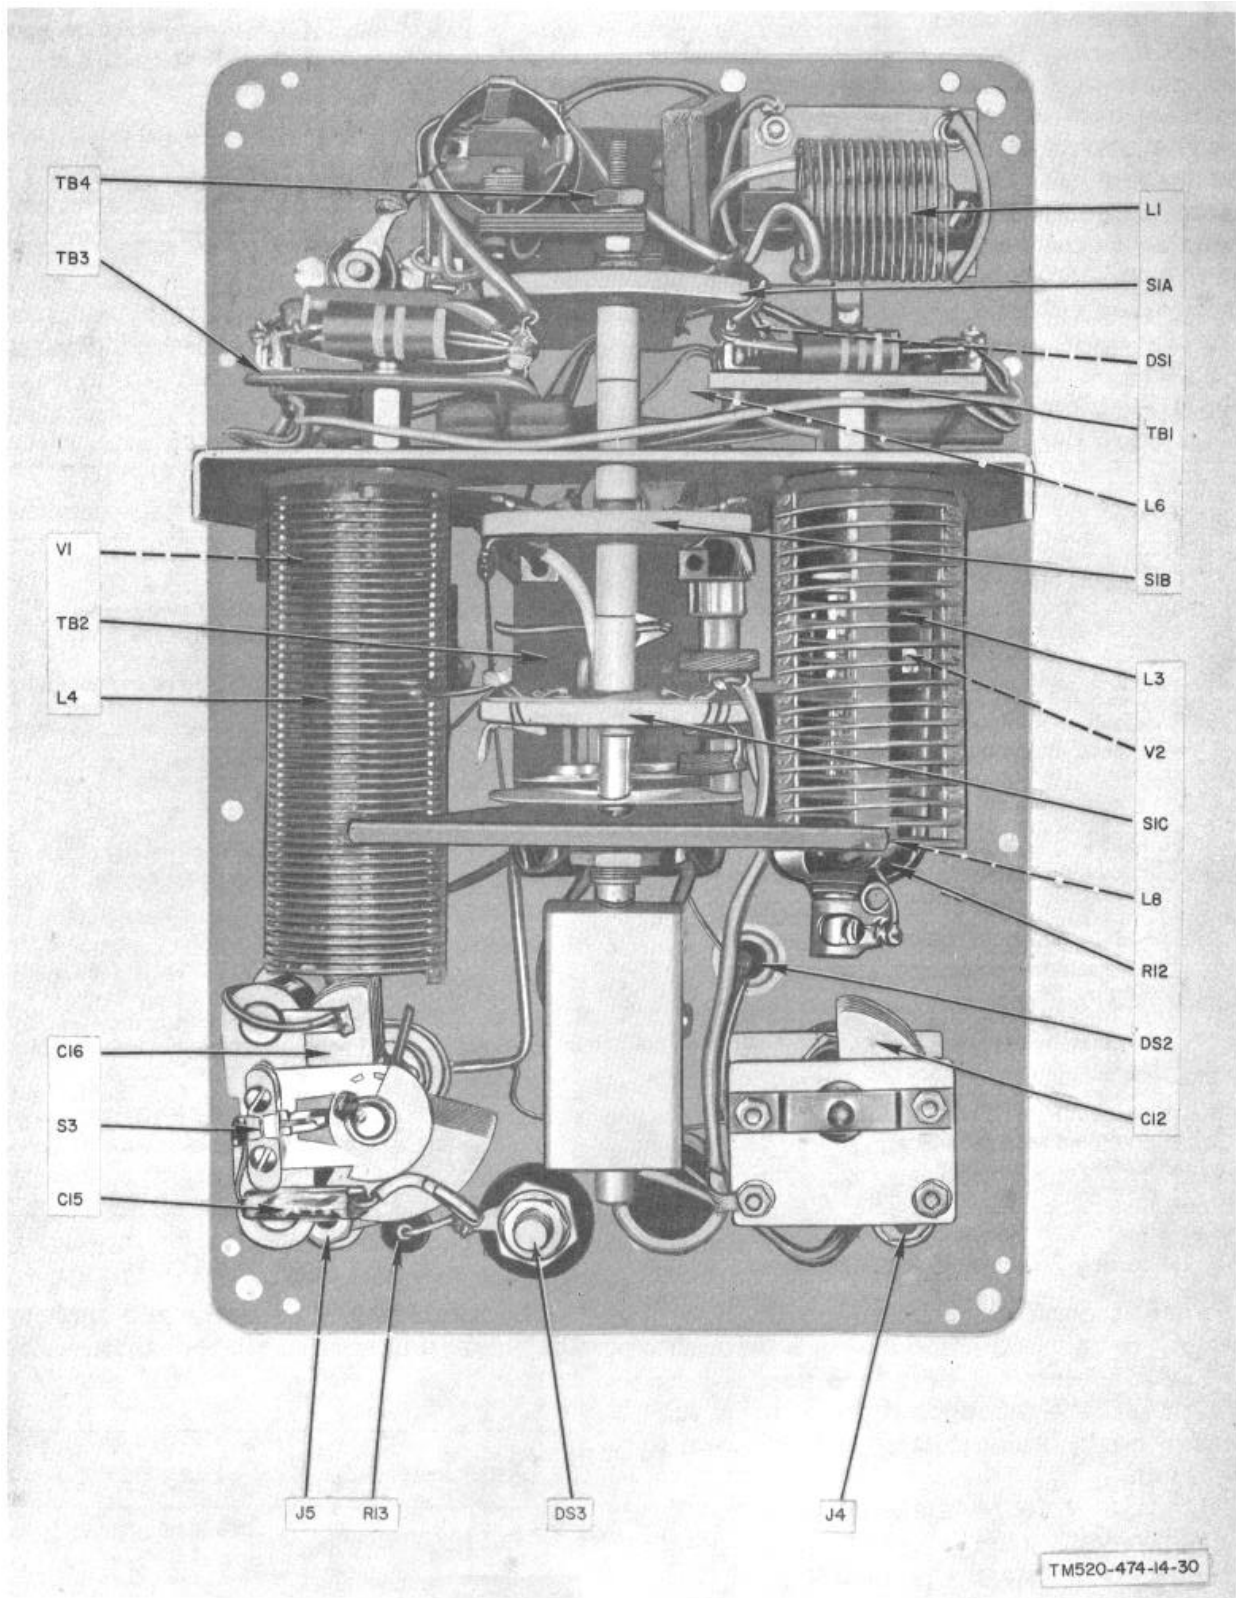
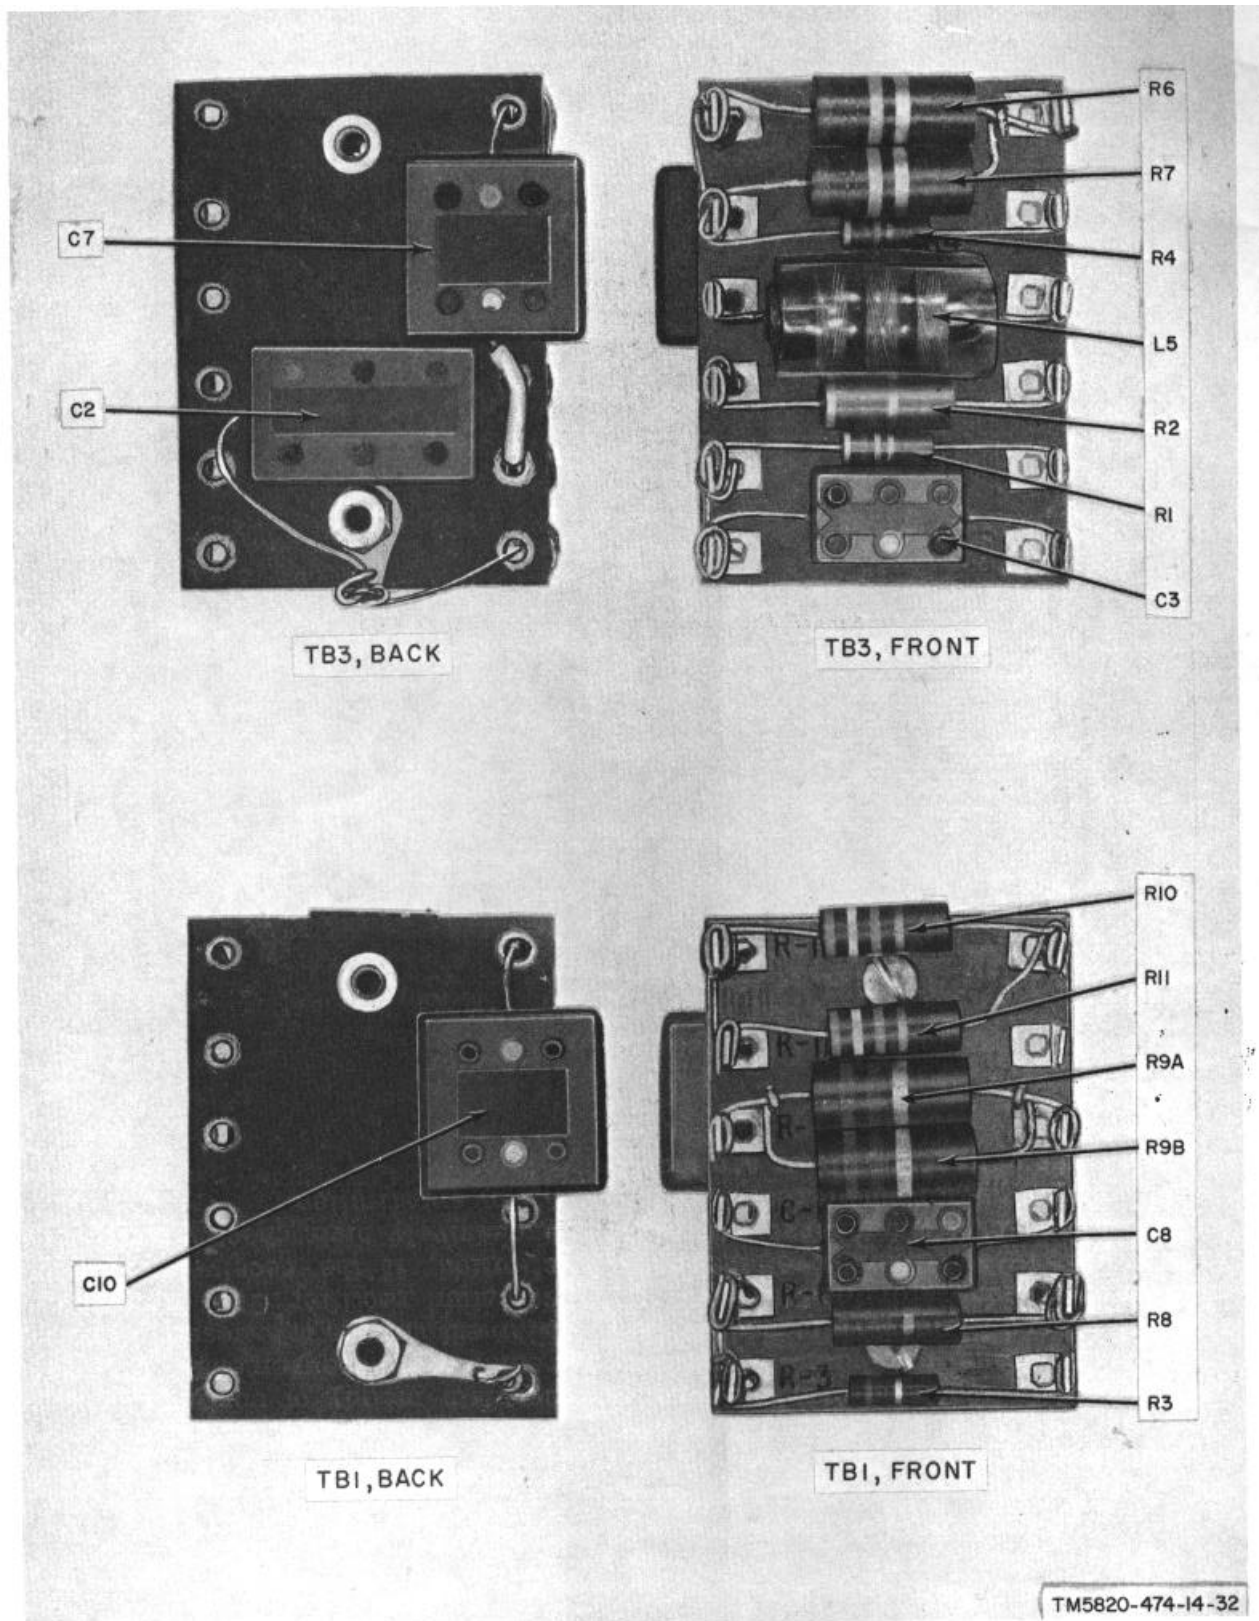
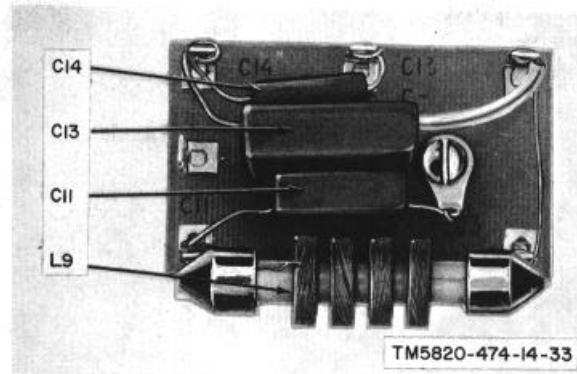
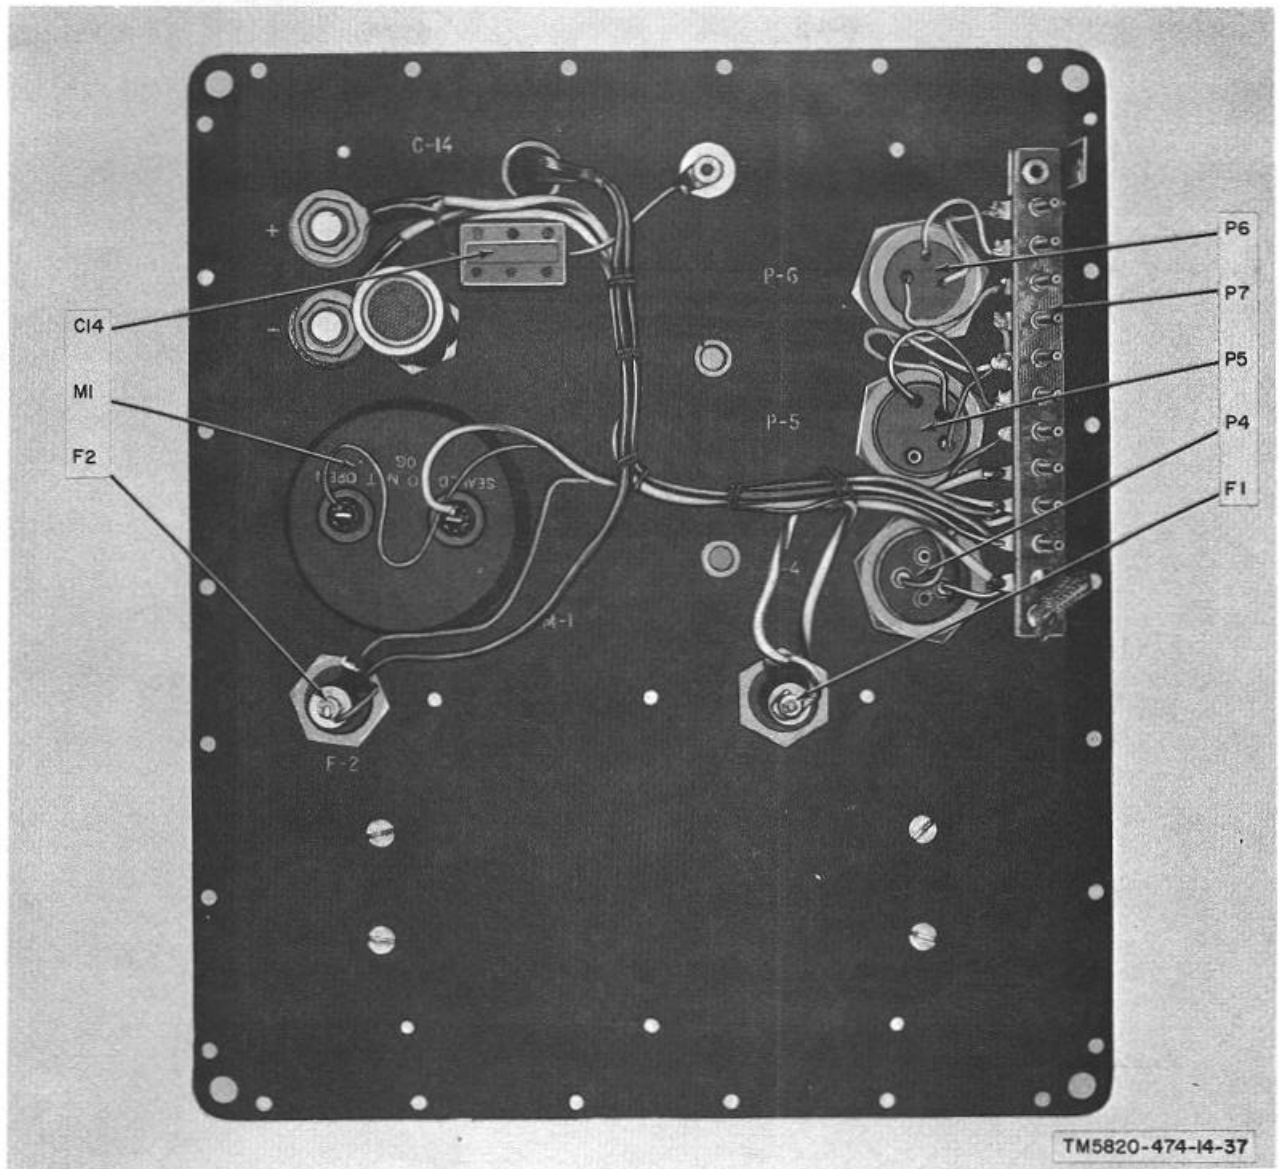

Figure 30. Transmitter, rear view.
Figure 32. Transmitter terminal boards TB1 and TB3.
Figure 33. Transmitter terminal board TB2.
Figure 37. Large power supply, rear view of front panel.
a. *General.* Procedures are outlined in the chart in d below for localizing troubles to the oscillator and power amplifier stages. Part locations are shown in figures 30 through 34. One or more of the localizing procedures may be necessary, depending on the symptoms. When the trouble has been localized to a stage, use the techniques outlined in paragraph 74 to isolate the faulty part.
| 2 | No output, no indication on antenna tuning lamp. Power amplifier and oscillator tuning normal. | Defective antenna tuning circuit..... | Check C14 (fig. 33), C15, S1, R13, and DS3 (fig. 30). Check wiring of antenna tuning circuit for shorts. |
| 7 | Transmitter unstable. present with crystal removed. | Output Power amplifier oscillating .. | Check C10 (fig. 32), C11 (fig. 33), L8, and R12 (fig. 30). |
| 1 | No output voltage for receiver or transmitter during operation from ac lines. No indication on ac voltmeter. | Fuse blown Shorted hash filters | Check fuse F2 (fig. 37). Check C6, C12 and C13 (fig. 33). |
| 3 | No output voltages for transmitter or receiver during operation from storage battery. | Fuse blown Shorted hash filter | Check fuse F1 (fig. 37). Check C14 (fig. 37). |